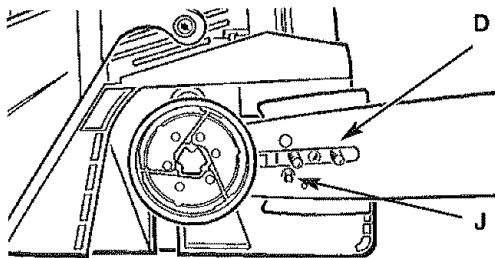

Fig. 23
3. Slide bar off the two bar bolts (D, Fig. 23) and remove chain.
3. Place the slotted end of the guide bar over the two bar bolts (D, Fig. 23). Be sure adjusting tang (J, Fig. 23) is in lower adjusting hole of the bar.